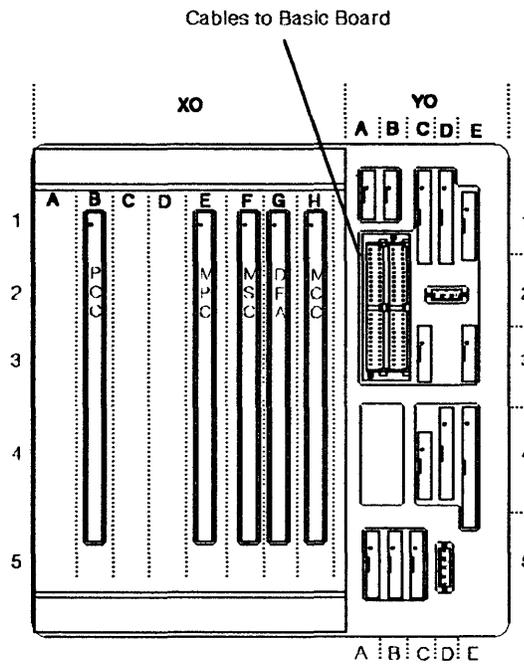

Figure 4-100. MOSS to Basic Cable Locations
14. At the MOSS board disconnect the 4 cables going to the Basic board. Refer to Figure 4-100.
14. At the MOSS board, reconnect the 4 cables from Basic board and close the clamps which maintain them. Refer to Figure 4-100 on page 4-72.